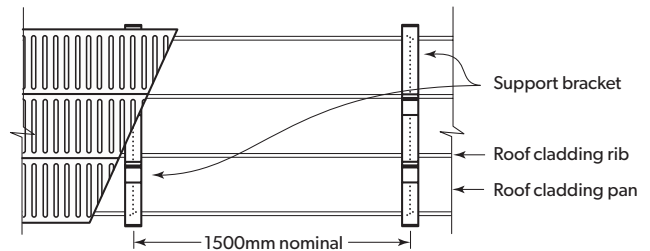

Figure 2
- If the ROOFTRAK® is to be 90 degrees to the roofing ribs: position the support bracket directly over purlins or battens, and parallel with roofing ribs (Figure 2).